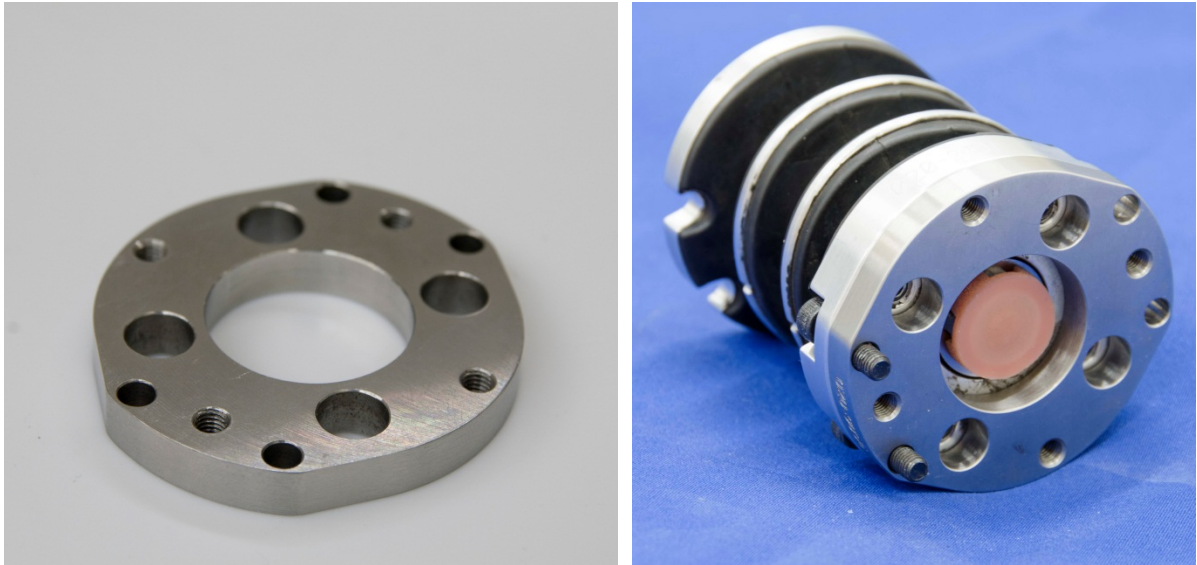

Figure 40. Positioning the neck interface plate prior to mounting neck to pendulum
- Position the neck interface plate at the base of the neck for mounting to the pendulum (Figure 40).